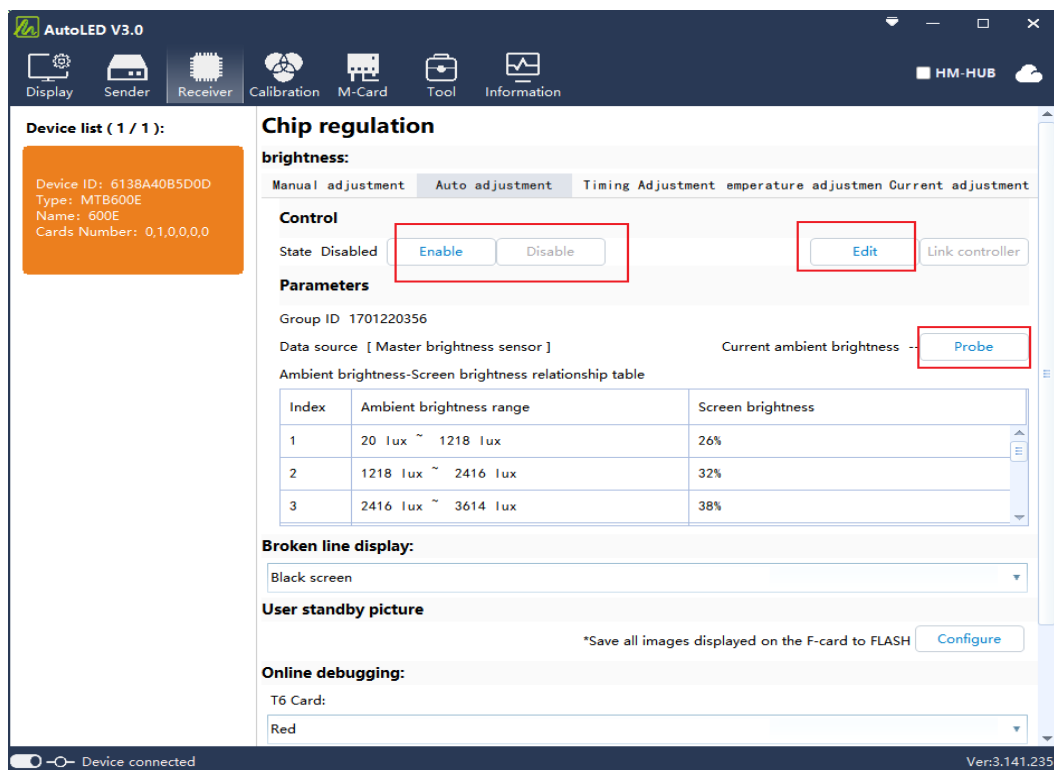

Figure 4-5-2 Automatic brightness adjustment
As shown in Figure 4-5-2: (1) click Automatic Adjustment on the Screen Control page; (2) enable automatic adjustment; (3) click Edit and configure the sensor and ambient-light range; and (4) define the segmented mapping between ambient illuminance and LED display brightness.